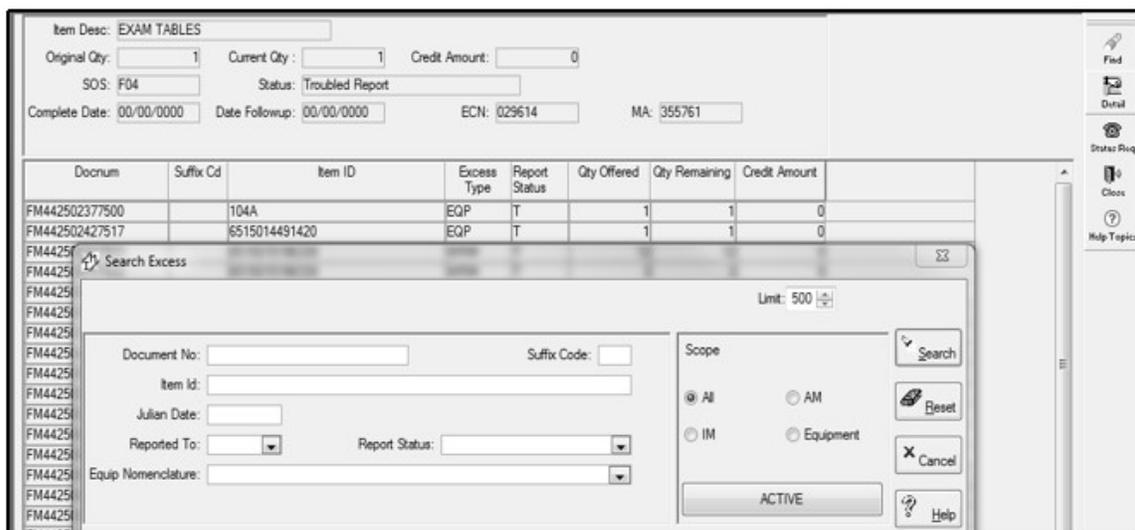

Figure 18. Report Excess--Search Excess (Search Results in Background) Window
(2) Use the “Search Excess” function (Figure 18), to access reported excess detail records.